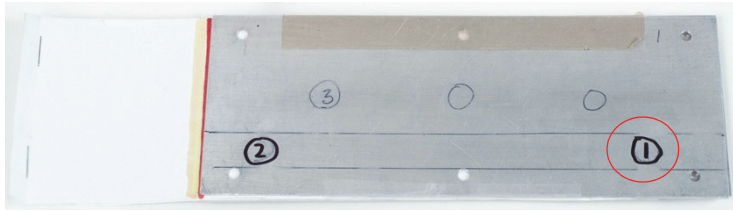

Figure 5-100 Position 1 of the standard
3. Place the probe on position 1 of the standard (see Figure 5-100 on page 199), and then, while firmly pressing the probe on the standard, press the A-LIFT NULL key ().